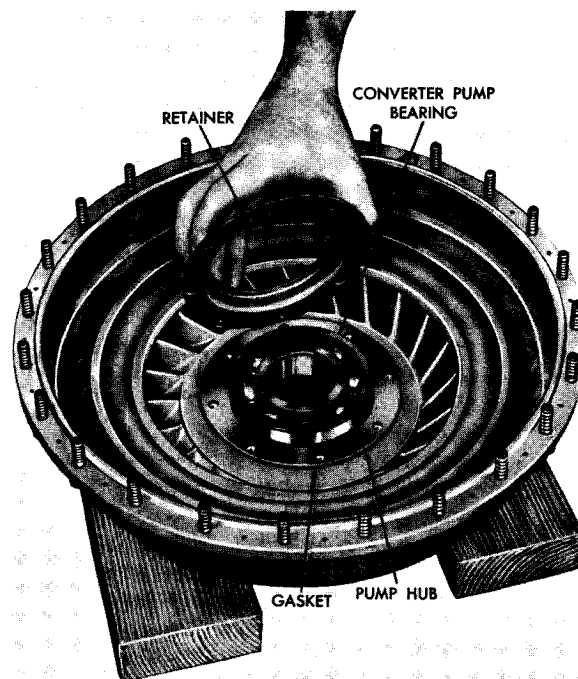

Fig. IX-4 Removing bearing retainer
(4) Remove the converter pump bearing retainer (fig. IX-4), converter pump hub and converter pump hub gasket (under hub).
(5) Separate ball bearing assembly 23, and converter pump hub 24.